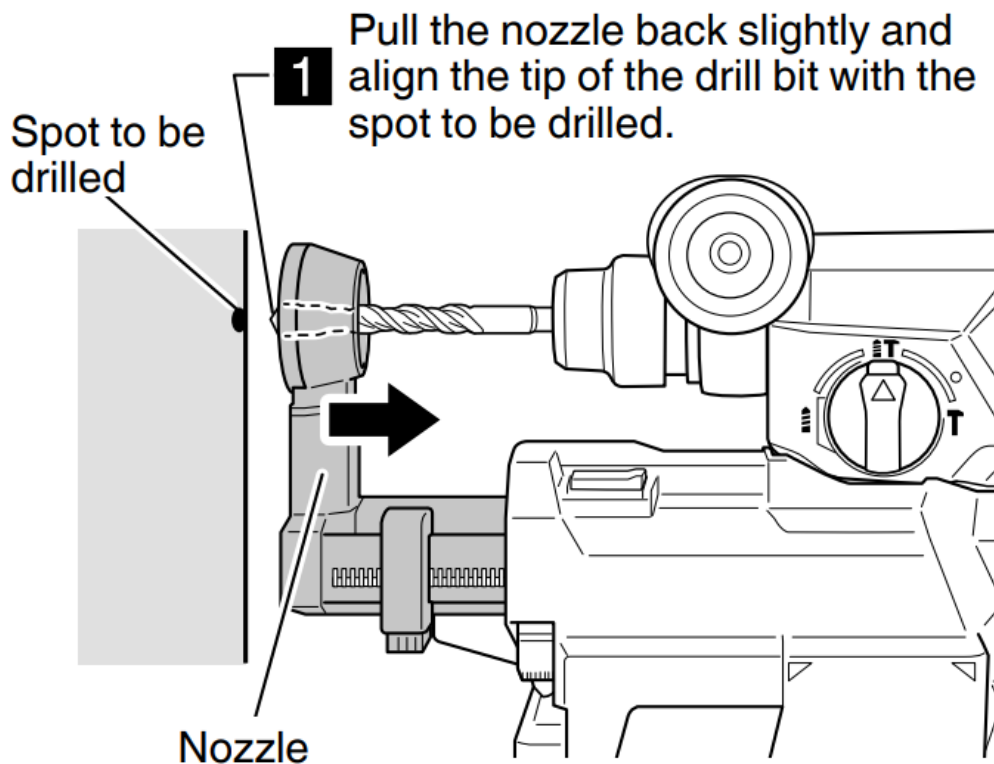

Fig. 10
1. Grasp the nozzle with your hand and pull it back slightly, and align the tip of the drill bit with the spot to be drilled. (Fig. 10)